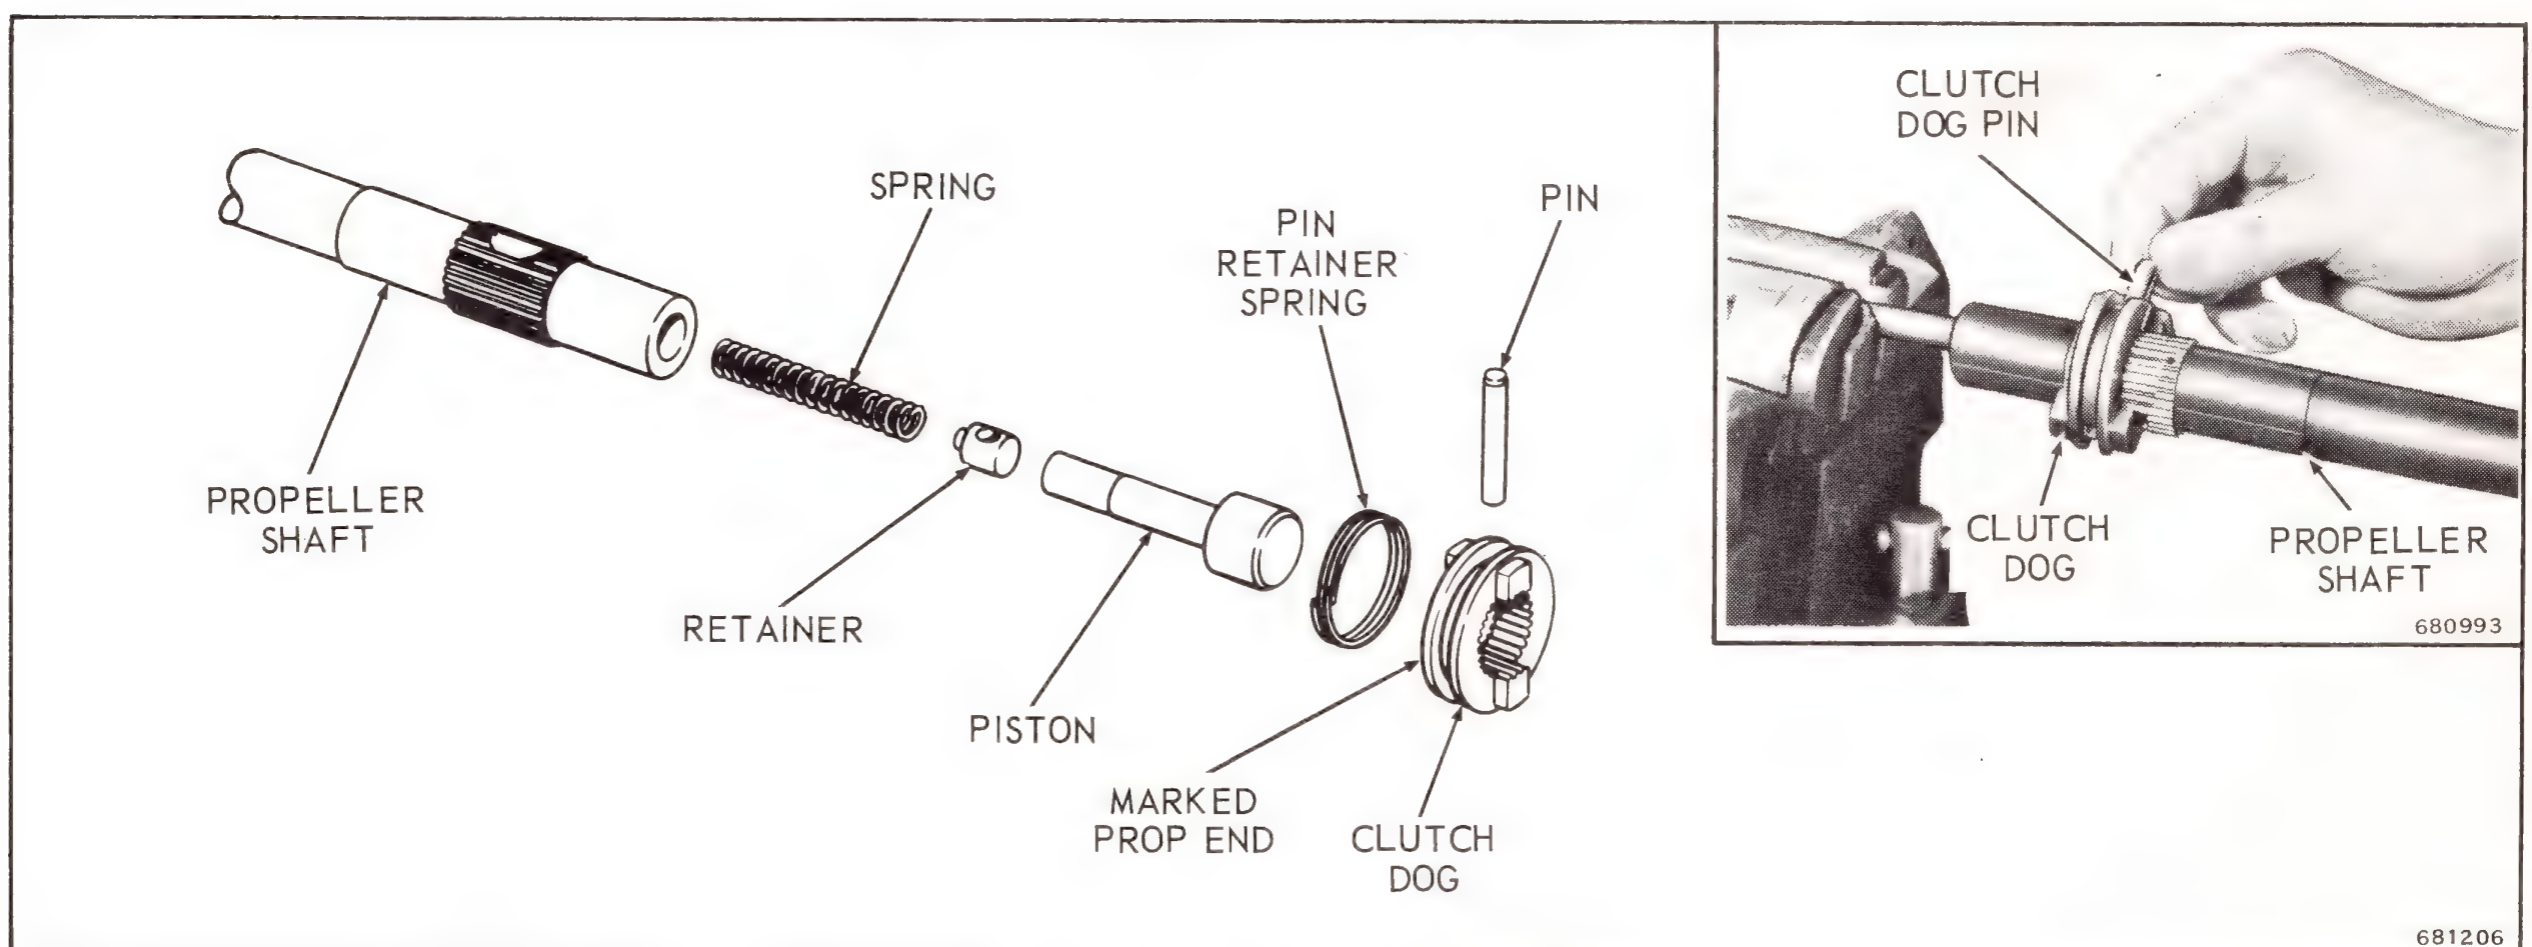

Figure 6-35. Clutch Dog, Pin and Spring
l. If clutch dog has been removed from propeller shaft, install as follows. Insert spring and retainer in propeller shaft. Install clutch dog on shaft. Note "PROP END" marking on clutch dog. Depress spring and retainer and insert pin. Secure pin with retainer spring. See Figure 6-35.